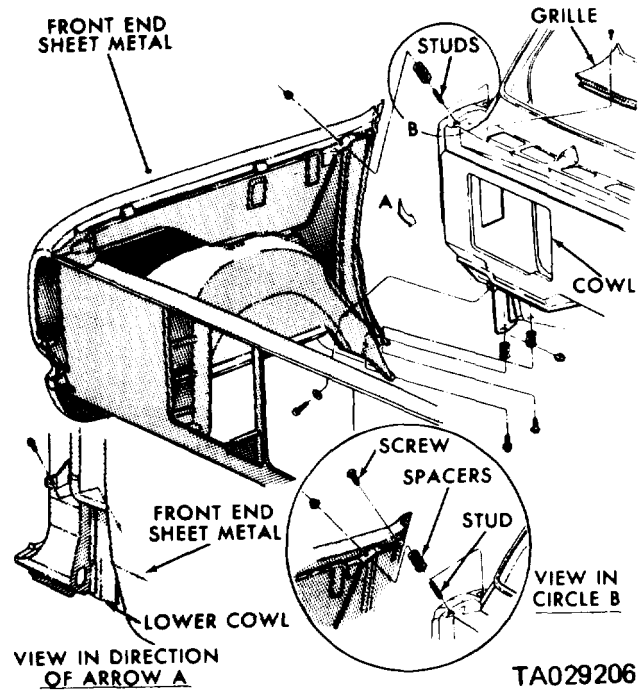

Figure 8-6. Fender to Cab and Cowl Grille.
a. The fender sheet metal attaches directly to the cab. Use spacers between the rear of the fender and the cowl. this aligns the sheet metal at the cowl vent opening and grille. Refer to figure 8-6.